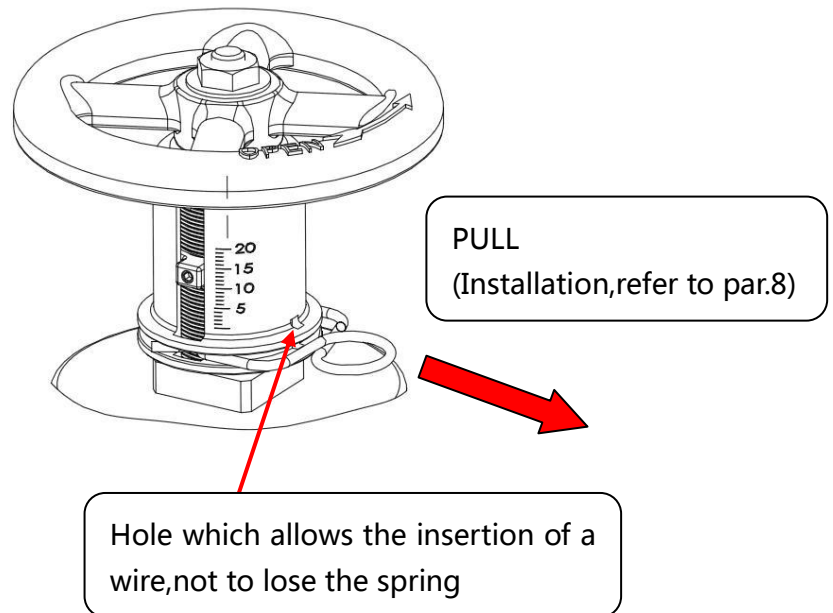

Fig.2
8. To override pressure restriction, pull spring clip. See Fig.2